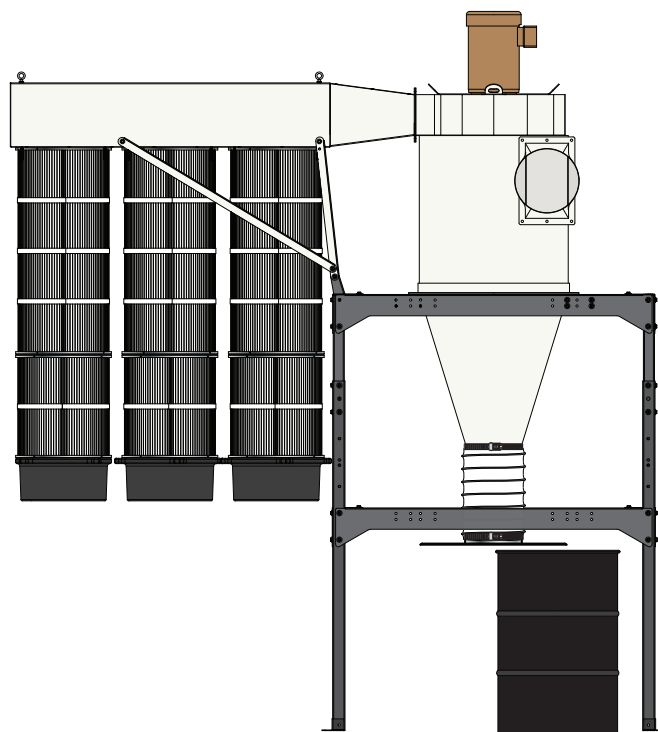

FIG. 19
Unclamp the Lid (K) and test to see if the Drum (L) is easy to remove from underneath the Cone (C) [FIG. 19].